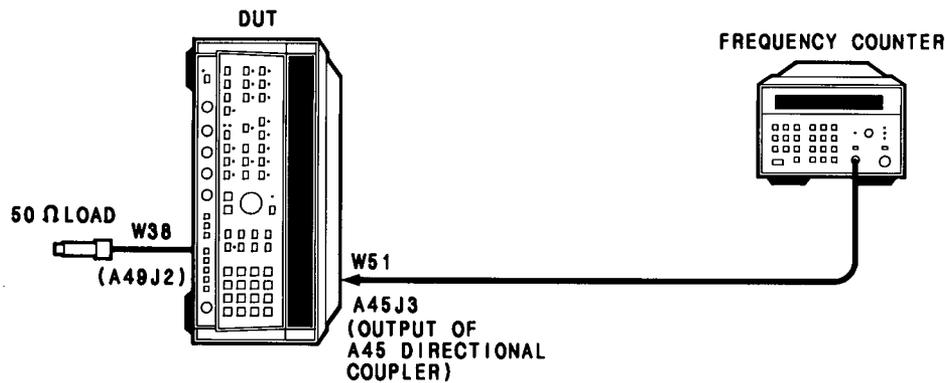
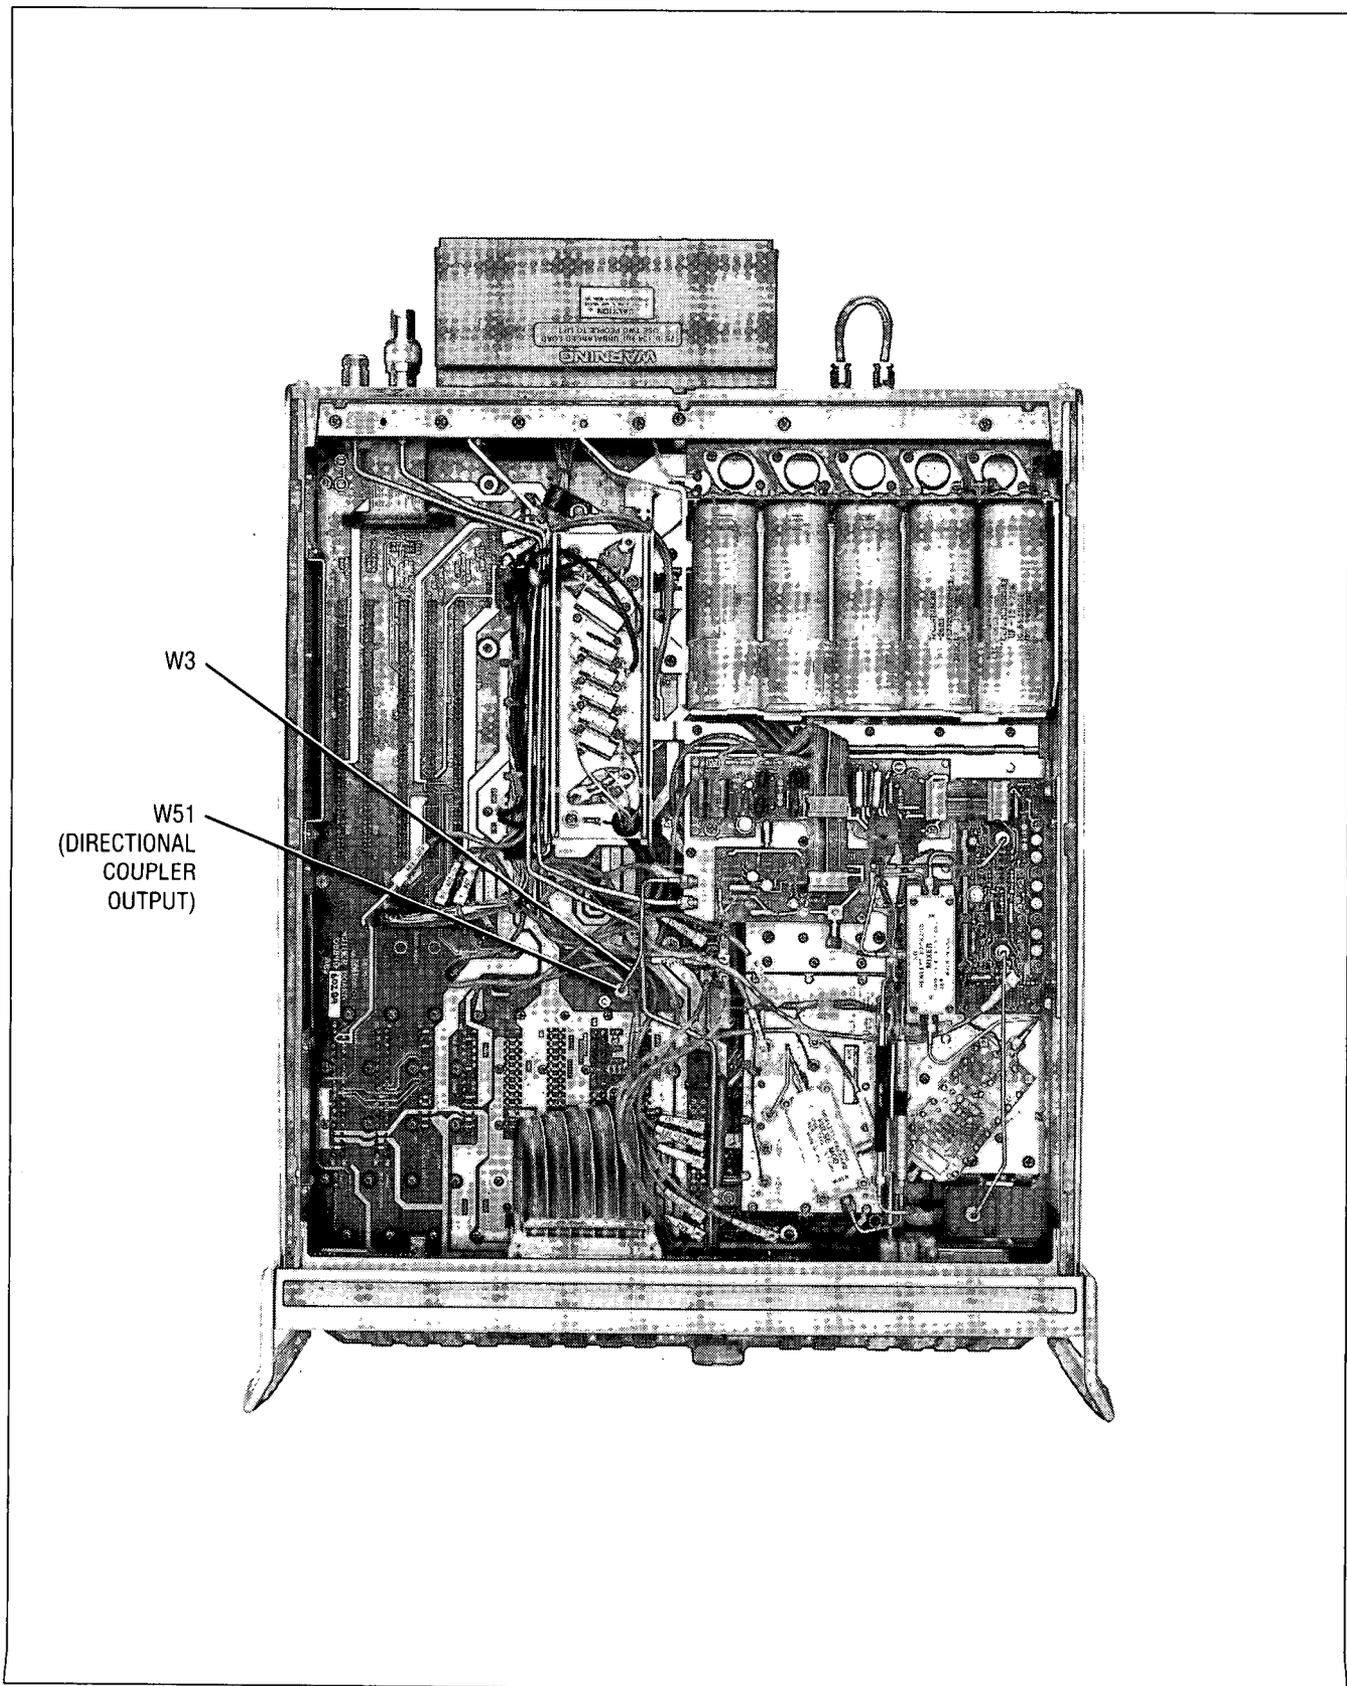

Figure 5-15. YO Main Driver A55 Test Setup
Figure 5-17. Top View, Cable Location
1. Position the DUT in the test position as shown in Figure 5-15 with top and bottom covers removed. Remove W3 (Figure 5-17) and connect the frequency counter to W51 as shown in Figure 5-15. Allow one-half hour for warm up time.
8. Disconnect the frequency counter and reconnect W3 to W51 (Figure 5-17). Remove 50 Ohm load from cable W38 and reconnect the cable to A49J2.